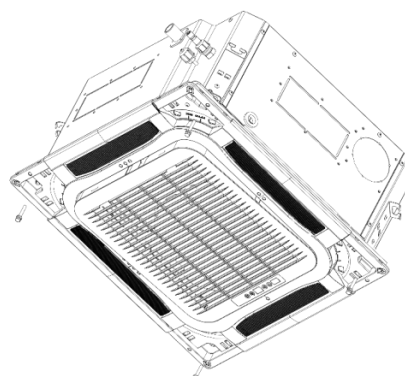

Fig.4.4.5
- (2) Adjust the position of panel to make the panel holes fix at the holes on the units
- (3) Fix the 4 screws at the two side of panel, as shown in Fig.4.4.5.